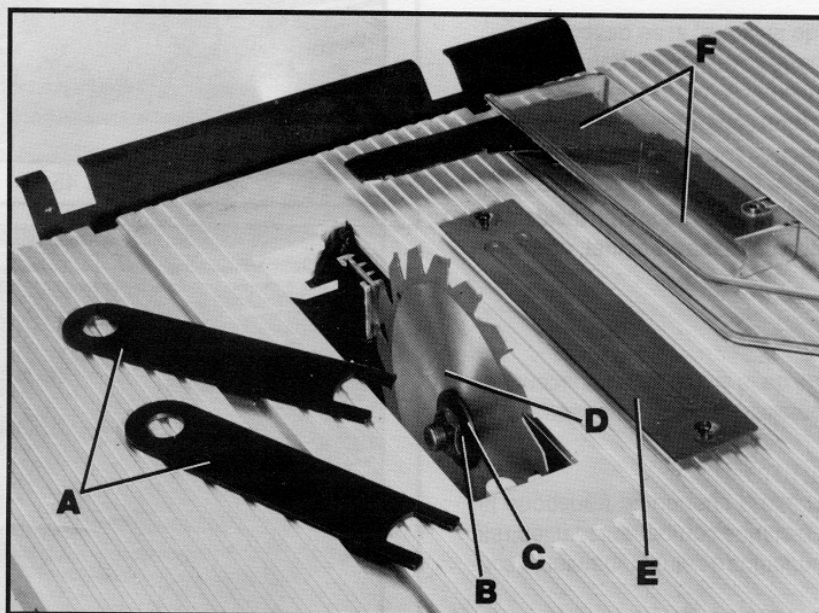

Fig. 42
2. Remove blade guard (F) Fig. 42.
3. Raise the saw blade to its maximum height and remove table insert (E) Fig. 42.
4. Using one of the wrenches (A) Fig. 42, place open end of wrench on flats on inside blade flange to keep saw arbor from rotating and remove arbor nut (B) using other wrench. Turn nut (B) clockwise to remove. Remove outside blade flange (C) and saw blade (D).
5. Assemble new blade making certain teeth of blade are pointing down at the front of the saw table and assemble outside blade flange (C) Fig. 42, and arbor nut (B). Tighten nut (B) with wrench by turning nut counterclockwise while holding arbor steady with other wrench.
6. Replace table insert (E) Fig. 42, and blade guard (F). **IMPORTANT:** If splitter of blade guard (F) needs to be re-aligned with the new saw blade, refer to section "ASSEMBLING BLADE GUARD AND ADJUSTING SPLITTER HOLDER" on page 11.